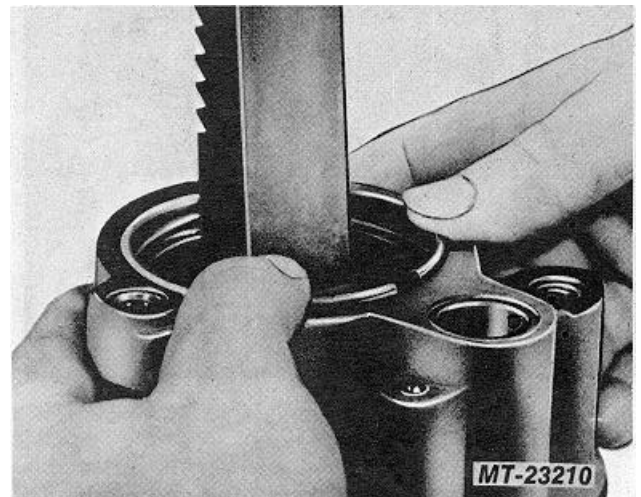

Fig. 31 Install End Plate Retaining Ring
11. Install end-plate retaining ring (ring gap 1800 from knock-out hole in housing) and release arbor press (Fig. 31).